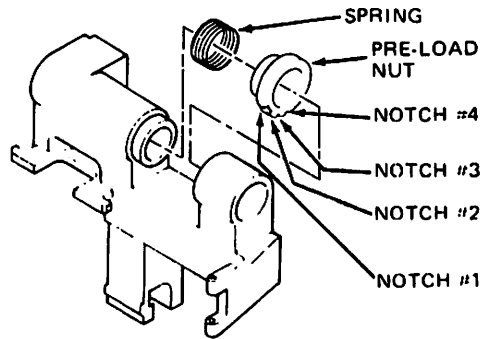

FIGURE 2
- i. When installing the carriage, set the pre-load nut in the #3 notch (Ref. Figure 2).